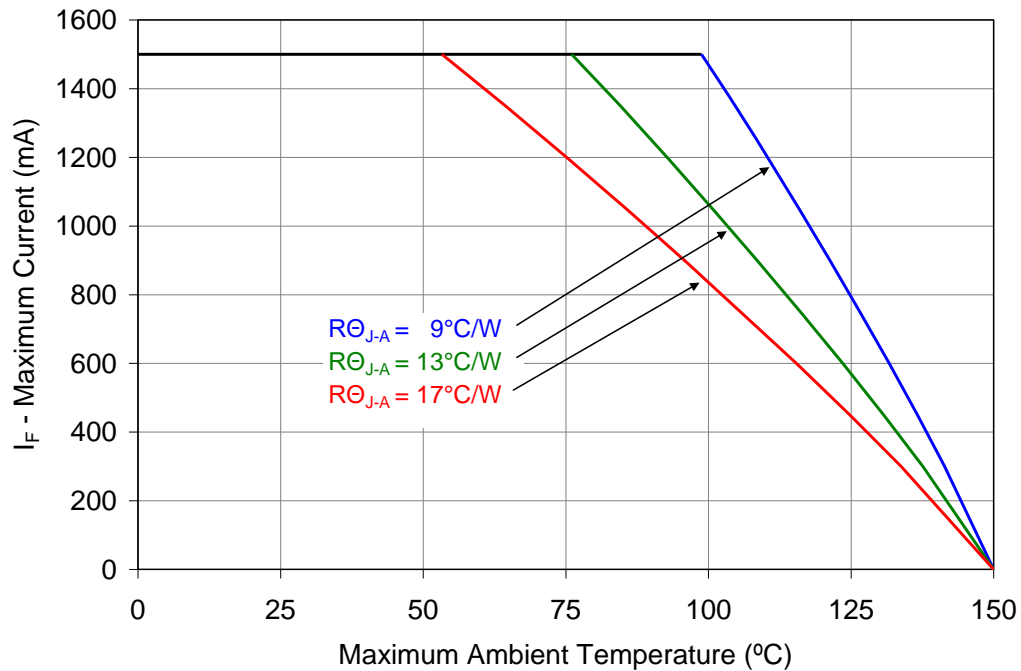

Figure 10: Maximum forward current vs. ambient temperature based on TJ(MAX) = 150°C.
- Maximum DC forward current is determined by the overall thermal resistance and ambient temperature. Follow the curves in Figure 10 for current derating.
Notes for Figure 10: